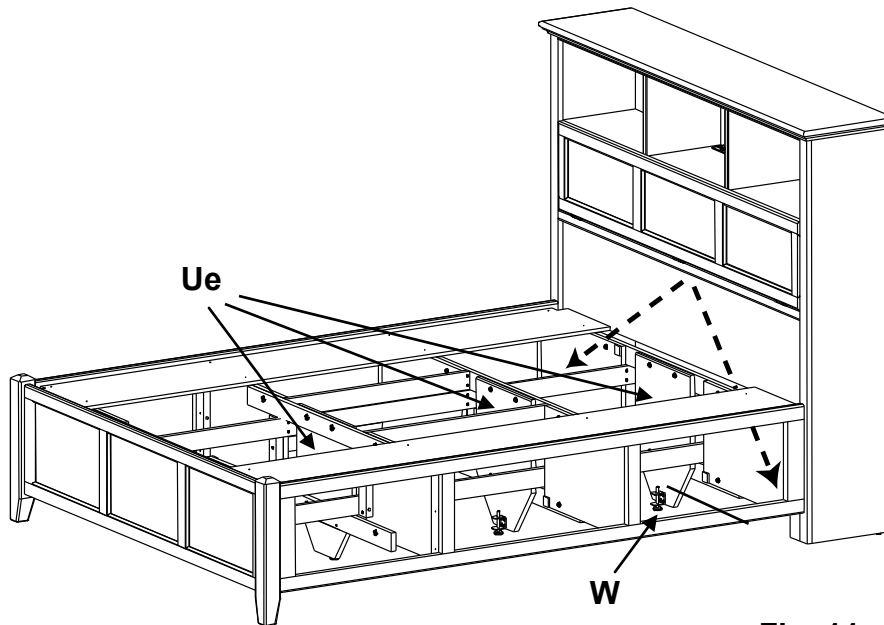

Fig. 11
11. Place your bed in its final position. Adjust all three Glides (W) found at the bottoms of the Foot Assemblies (Ue) so that the Glides just touch the floor. See Figure 11.
To level the headboard, stand in the open area in between the two attached deckboards and reach through the front of the platform. See Figure 11. Using a slotted screwdriver, rotate the Large Adjustable Glide (YA) clockwise until it bears weight. Repeat for the opposite side. See Figures 11a and 11b.